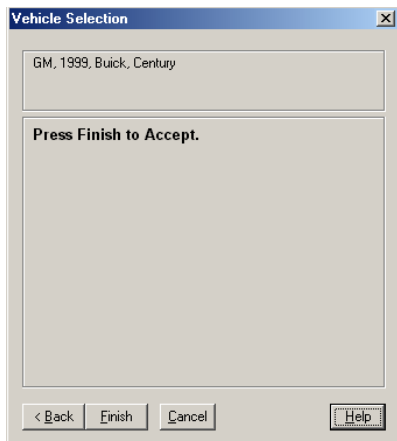

Figure 2.10: Vehicle Selection Last Dialog Box
- 3 Several more Vehicle Selection dialog boxes appear. In each dialog box, make the correct selection and then press the **Next** button. Do this until **Press Finish to Accept** appears in the dialog box (Figure 2.10 on page 17).